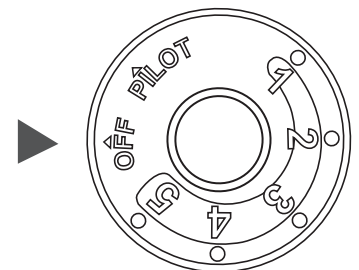

Fig. 22b
3. Turn control knob clockwise ↷ to "OFF" position. (See Fig. 22b)
4. Wait (5) minutes to clear out any gas. Then smell for gas, including near the floor. If you smell gas, STOP! Follow "B" in the safety information above. If you don't smell gas, go to the next step.